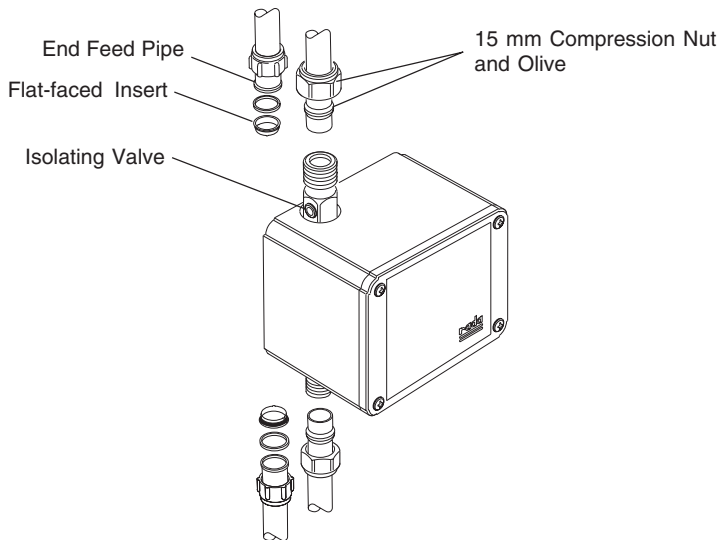

Figure 2
1. Connect the pipework to the inlet/outlet fittings. For 15 mm compression connections use the compression nuts and olives supplied. For 1/2" BSP union connections fit the flat-faced inserts to the inlet/outlet fittings. **Make sure that the water inlet is connected to the isolating valve (refer to Figure 2).**